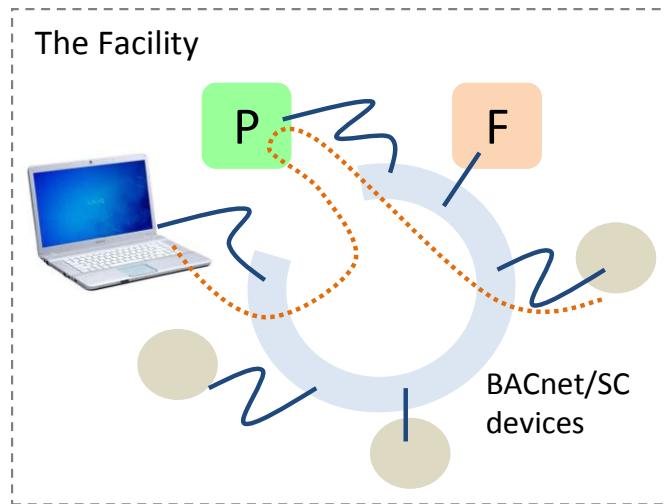

Figure 2: Secure Access within the Facility
- BACnet/SC hub (“P” in Figure 2)
- BACnet/SC failover hub (“F” in Figure 2)